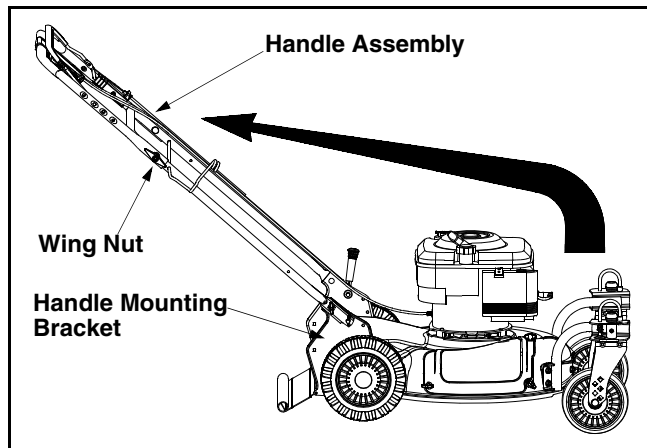

Figure 2
- Lift up and pull back on the upper handle to raise the handle into the operating position. See Figure 2. Make certain the lower handle is seated securely into the handle bracket assemblies.
- Tighten wing nuts on each side of the handle making sure that the carriage bolts are seated properly into the handle. See Figure 2.